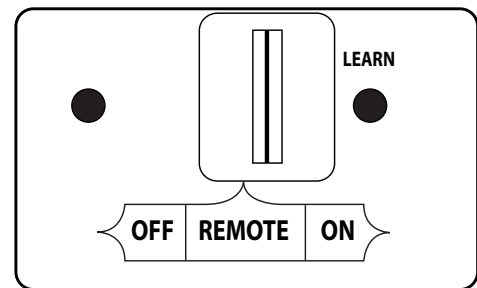

Fig. 13-1 Remote receiver detail (ON)
1. Locate the 3-position switch on the remote receiver (see Fig. 13-1), and slide the switch to the **ON** position.